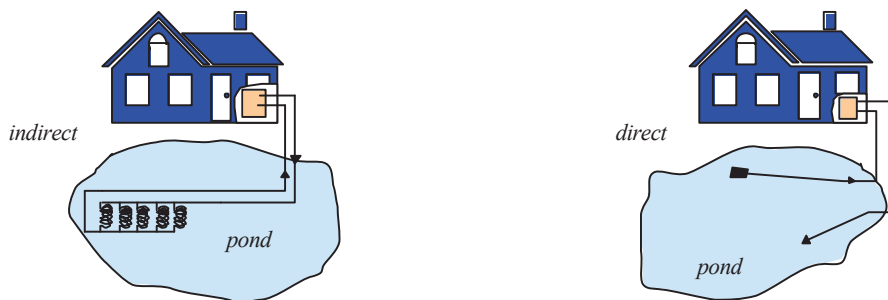

Figure 1.
Three terms are in use to describe the technology in general: geothermal heat pump (GHP), geoexchange (GX) and ground-source heat pump (GSHP). The first two are typically used by individuals in marketing and government, and GSHP by engineering and technical types. The terms appearing in bold (Figure 1) will be the ones used throughout this text.